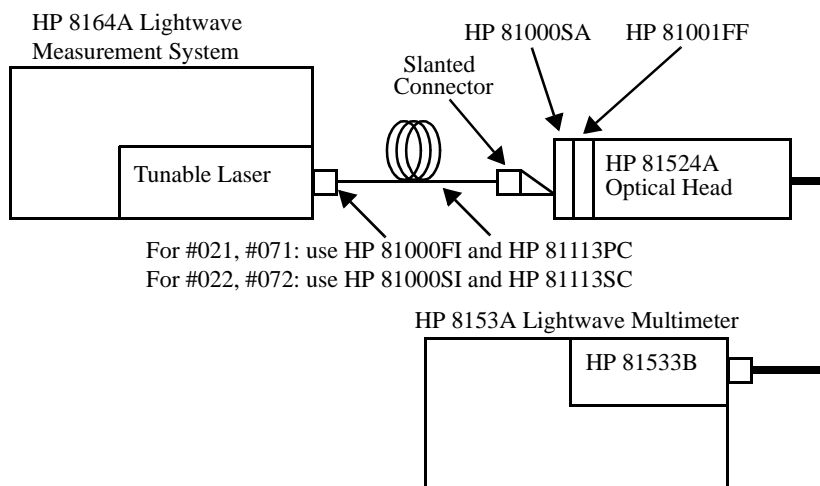

Figure D-4
- 1 Set up the equipment as shown in Figure D-4.
- 1 Set up the equipment as shown in Figure D-4 (remember to calibrate the HP 81001FF Attenuation Filter).